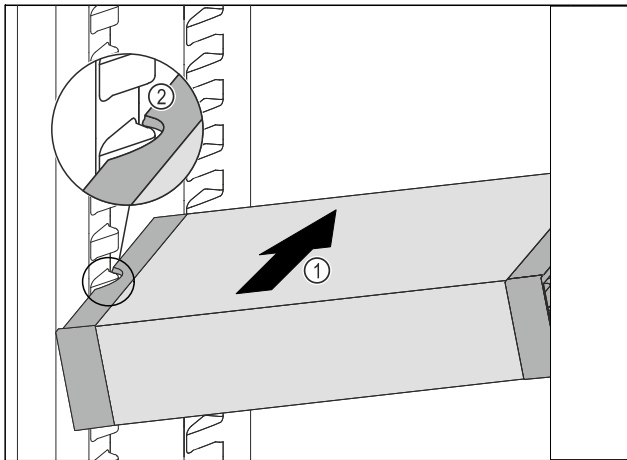

Fig. 143
- Insert the VarioSafe into the refrigerator compartment at an angle Fig. 143 (1) until the recesses in the side Fig. 143 (2) of the VarioSafe are at the level of the support rib in the refrigerator compartment.